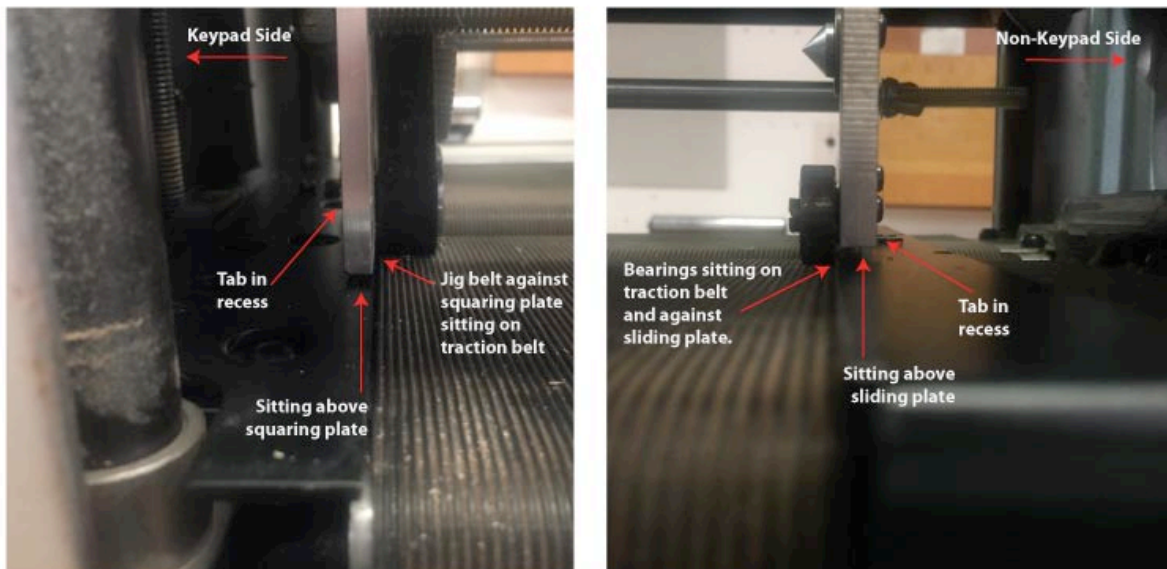

Figure 1: Proper Placement of the Rotary Jig in the Machine
2. Check the placement of the jig. The side plates of the jig should be sitting on top of the squaring plate and sliding plate (See Figure 1). The tabs on either side should be sitting snugly in the recesses on each of these plates.